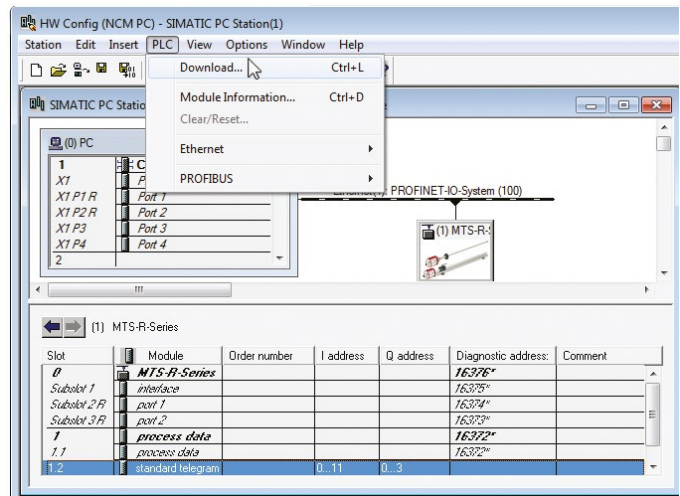

Fig. 76: Transfer settings to the control system (source: Siemens)
4. Select a standard telegram for output of the sensor position (Fig. 76). For this purpose, right-click “Slot 1”, Subslot “2”. Then, select: